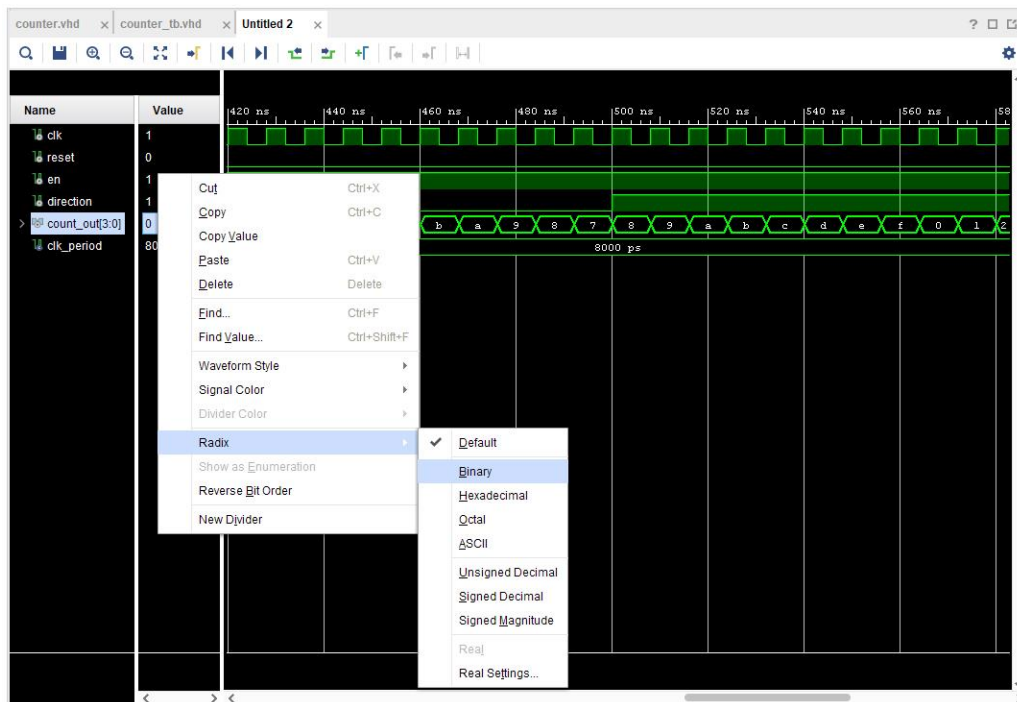

Figure 28
10. If instead of the hexadecimal notation you want to see the value of each one of the signal's vector bits, highlight **count_out[3:0]** to select it and right click to open a drop-down menu. In this menu choose **Radix → Binary** (Figure 28)